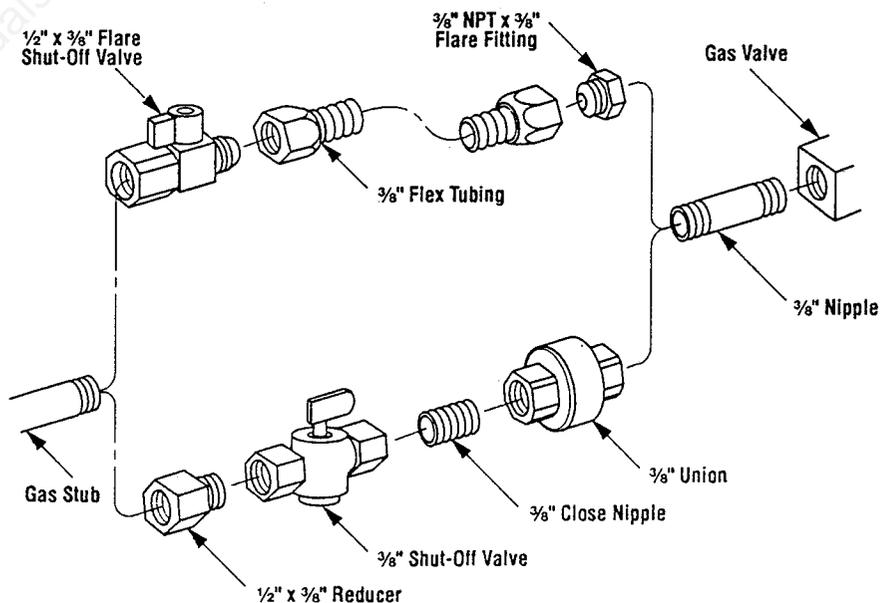

Figure 29
Step 6. Connecting Gas Line – Make gas line connections. All codes require a shut-off valve mounted in the supply line. Figure 29 illustrates two methods for connecting the gas supply.